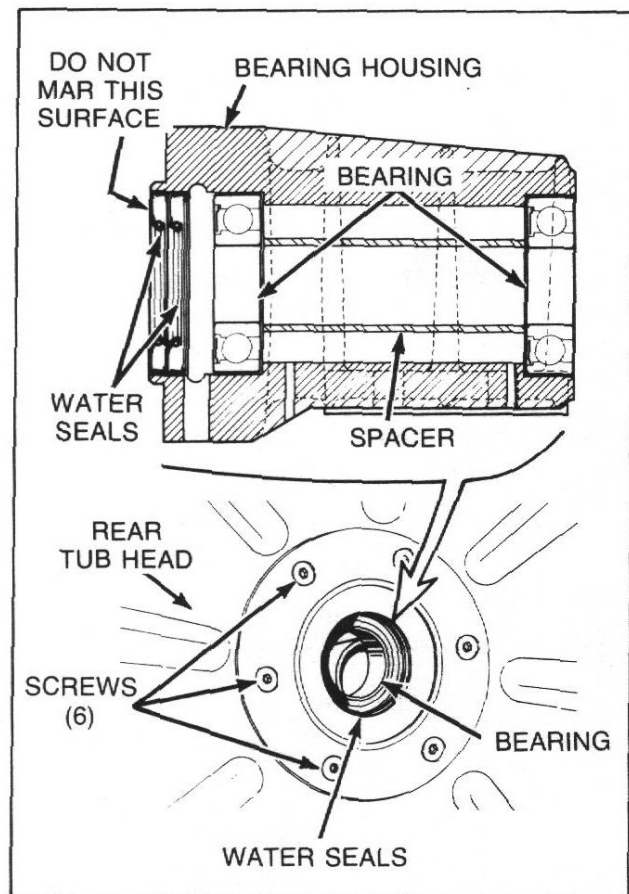

Figure 41
- f. Remove six screws, lockwashers, gasket retainer and gaskets holding rear tub head to bearing housing, *Figure 41*.
**NOTE:** New seals should be installed with spring loaded lip facing in as shown in *Figure 41*.
**CAUTION:** Be careful when installing second water seal as not to mar the surface where the "V" ring seal contacts the water seal, *Figure 41*.
- f. Remove six screws, lockwashers, gasket retainers and gaskets holding rear tub head to bearing housing, *Figure 41*.
**NOTE:** When replacing bearings, we recommend installing new water seals as per paragraph 37. Apply a retaining compound (such as Loctite) to outside diameter of bearings. Install bearings with sealed side facing rear tub head, *Figure 41 or 42*.